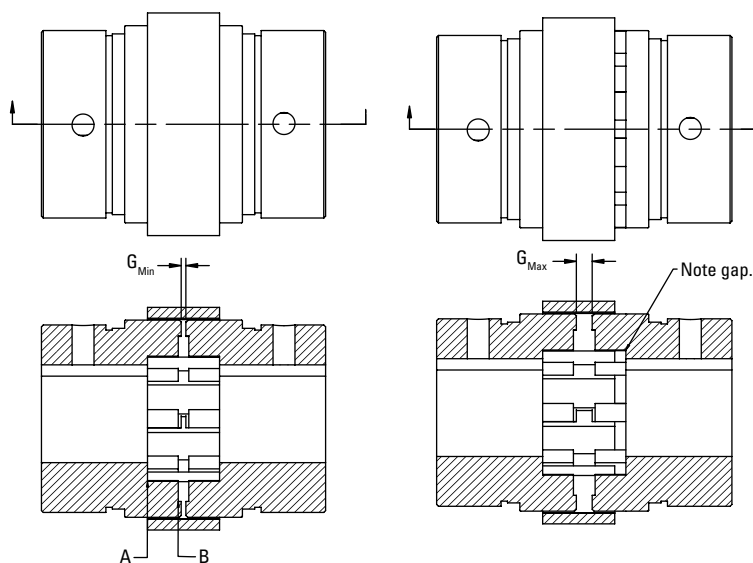

Fig. 6. Proper shaft-to-hub engagement.
4. Install the first hub. It should be mounted so the end of the shaft is flush with surface "A" as shown in fig. 6. It is acceptable for the shaft to extend past "A" as long as it is not past the teeth shown as "B."